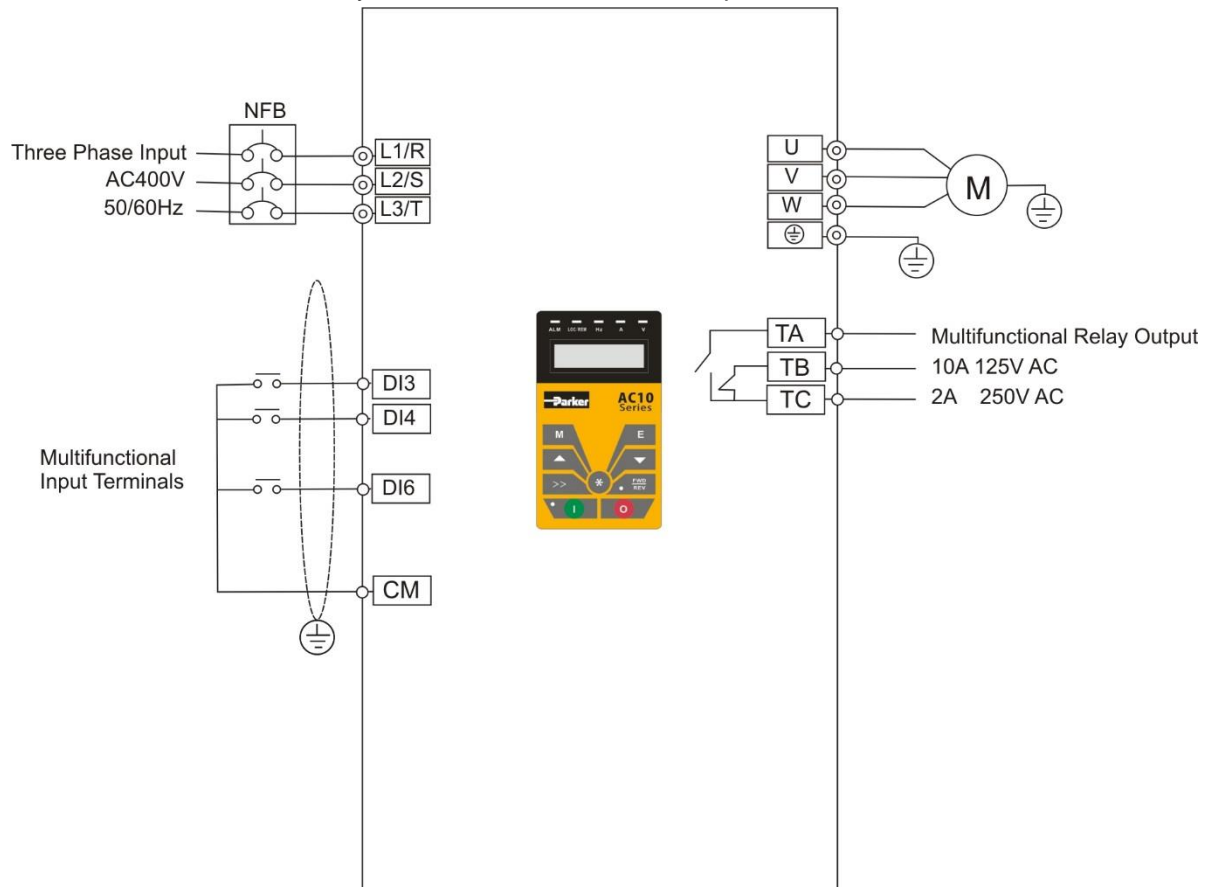

Figure 8-2 Wiring Diagram 2
i. Connect the wires in accordance with **Figure 8-2**. After having checked the wiring successfully, switch on the air switch, and power on the inverter;